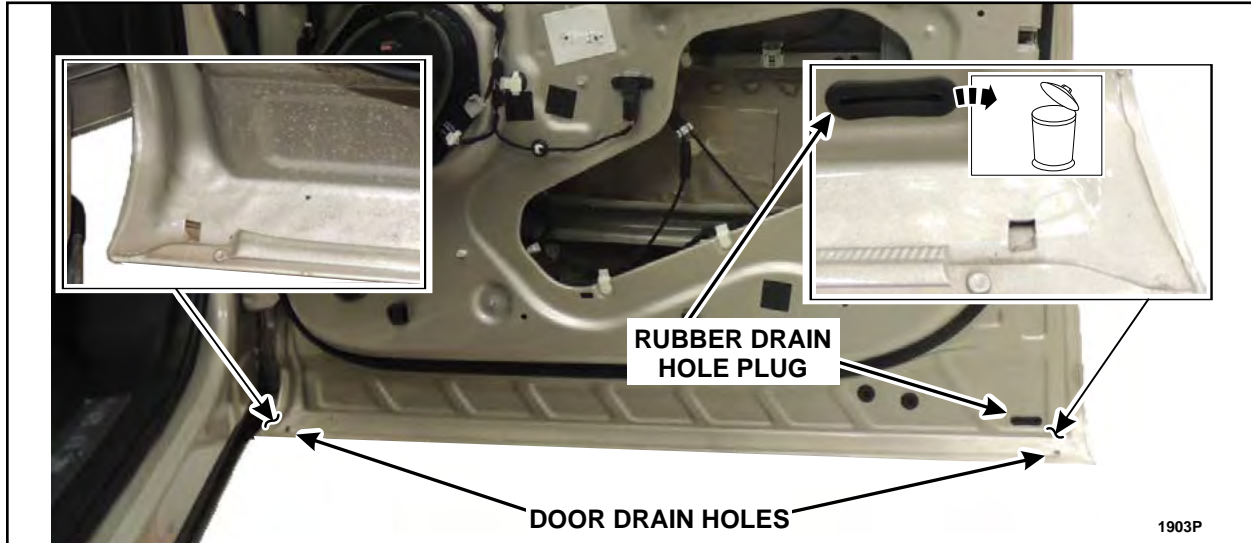

FIGURE 14
1. If water shield kit installation was not necessary, remove and discard the rubber drain plug and clean any obstructions, debris, foreign material and residual water from all of the door drain holes using compressed air and a plastic trim tool. See Figure 14.